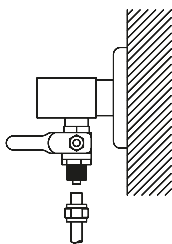

Figure 8. Mains inlet valve
- Opening up the 1/4" ball valve, mains water is supplied to the system (Figure 8.). Pump starts to operate.
- When there not anyone in the house, close the water inlet valve of the appliance for safety purposes (Figure 8).
- In any unfavorableness (Figure 8) close the water inlet valve and consult Aura Cebilon Plus Authorized Service.